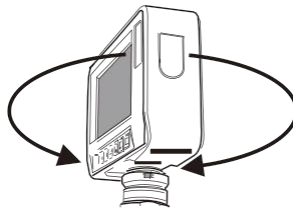

Fig. 4
3. Test carefully whether display can be turned left and right, by approx. 160°. (Fig. 4)